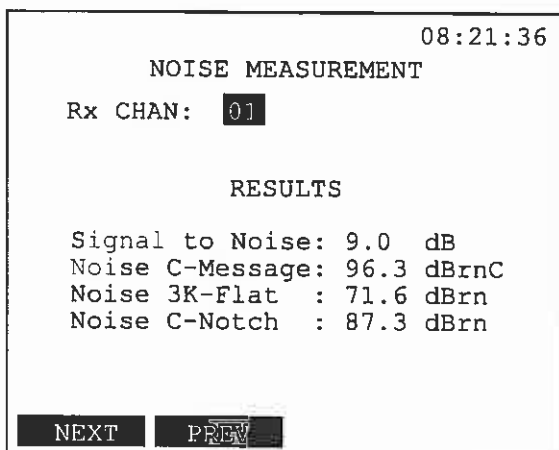

Figure 43 Noise Measurement Results
1. In the VF CHANNEL menu cursor down to the NOISE MEASUREMENT and press the ENTER key on the keypad. The Noise Measurement screen appears, refer to Figure 43, Noise Measurement Results.